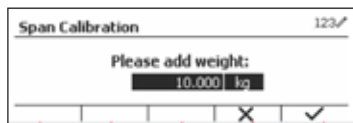

Figure 9
- Press the softkey corresponding to the ✓ icon to initiate Span Calibration. (See Figure 9)